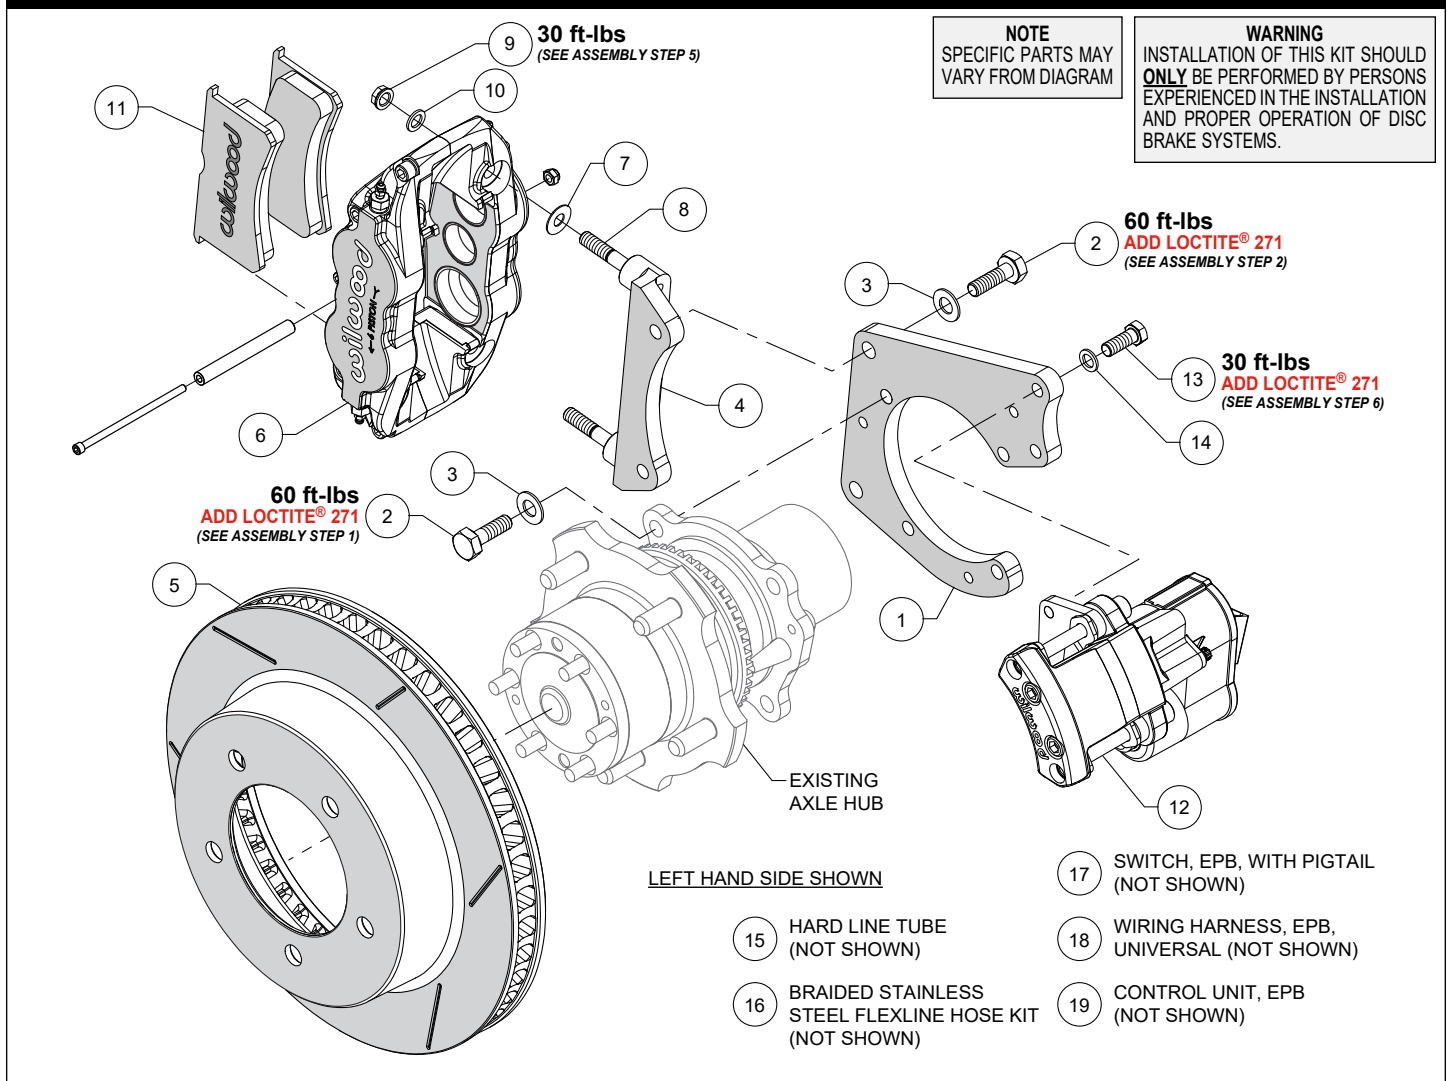

Figure 1. Typical Installation Configuration
NOTE: Numbers in parenthesis refer to the parts list and Figure 1 on the preceding pages.
STEP 1 The primary bracket (1) should initially be installed with clean, dry threads on the mounting bolts. Orient the bracket as shown in Figure 1, and Photo 1, and install using bolts (2) and washers (3). Temporarily tighten the mounting bolts. **NOTE:** *The bracket must fit squarely against the axle flange.* Inspect for interference from casting irregularities, machining ridges, burrs, etc. Remove the bracket mounting bolts one at a time, apply red *Loctite*® 271 to the threads, and torque to value shown in Figure 1.
STEP 2 The caliper mount bracket (4) should initially be installed with clean, dry threads on the mounting bolts. Orient the bracket as shown in Figure 1 and Photo 2, and install using mount bolts (2) and washers (3). Temporarily tighten the mounting bolts. Inspect for interference from casting irregularities, etc. Remove the bracket mounting bolts one at a time, apply red *Loctite*® 271 to the threads, and torque to value shown in Figure 1.
STEP 3 Slide the rotor (5) onto the axle hub, Figure 1. **NOTE:** *The rotor must fit flush against the axle hub flange or excessive rotor run out may result.* Install three lug nuts (finger tight) to keep the rotor assembly in place while continuing with the installation.
STEP 4 **NOTE:** *This kit contains distinct right and left hand calipers that must be mounted in a specific direction, as described below.* Initially place one .035" thick shim (7) on each stud between the caliper and the bracket, as shown in Figure 1 and Photo 3. Mount the caliper (6) onto the bracket (4) using lock nuts (9) and washers (10), Figure 1. Temporarily tighten the lock nuts. Ensure that the caliper is mounted so the largest pistons are at the rotor exit end of the caliper, in relation to the forward direction of the rotor.
STEP 5 Remove the caliper center bridge pad retainer bolt, nut, and tube from the caliper. Insert the brake pads (11) into the caliper, with the friction material facing the rotor, as shown in Photo 4. Check that the top of the brake pad is flush with the outside diameter of the rotor, Photo 5. If not, adjust by adding or subtracting shims (7) between the caliper and the bracket. After the caliper pad height is set, torque the caliper lock nuts (9) to value shown in Figure 1. Secure the brake pads in place with the center bridge pad retainer tube, bolt, and locknut, Photo 6. The locknut should be snug without play in the bolt or tube. Be cautious not to over tighten.
STEP 6 Mount the EPB caliper (12) onto the primary bracket (1) using bolts (13) and washers (14), as shown in Figure 1 and Photo 7. Apply red *Loctite*® 271 to bolt threads, and torque to value shown in Figure 1.